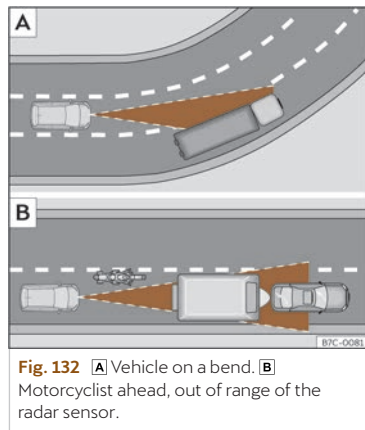

Fig. 132 **A** Vehicle on a bend. **B** Motorcyclist ahead, out of range of the radar sensor.
The ACC may not detect the vehicle in front on a curve, or may regulate the distance from vehicles in other lanes >>> **Fig. 132 A**.
- Vehicles that are not aligned while driving or that are outside the sensor's detection area, such as motorcycles >>> **Fig. 132 B**.